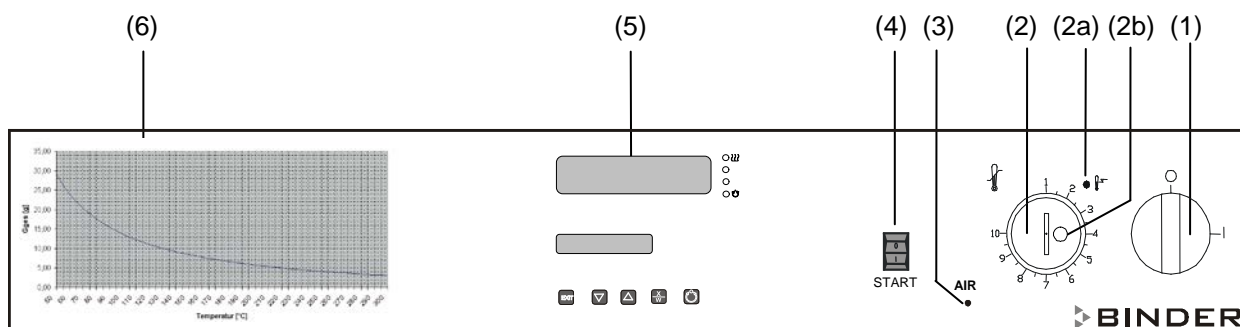

Figure 4: Control panel of FDL 115 standard chamber
A flow monitor in the upper part of the device (pressure differential switch) monitors the stream of exhaust air. In the event of failure, the monitoring system turns the heater off immediately and shows this status with a visual signal: red indicator light "AIR" (3) (see Figure 4).